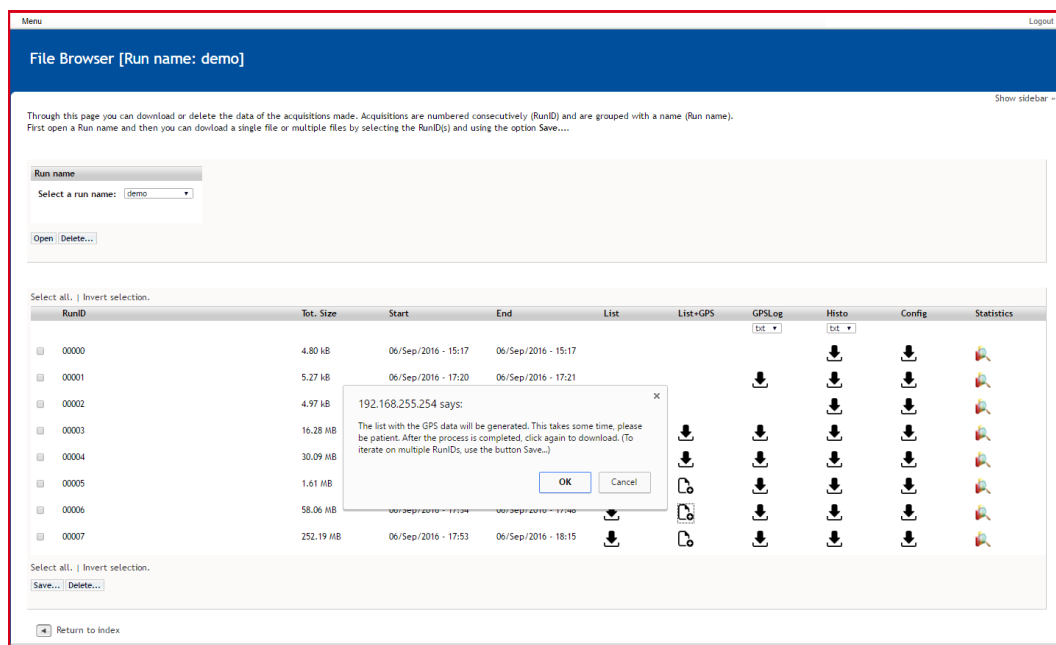

Fig. 7.8: List+GPS function
- **List+GPS.** Allows to download the merged file between List and GPSLog data in order to geolocalize each event. By clicking on the  icon, the merged file will be generated and is then available for download (see Fig. 7.8).